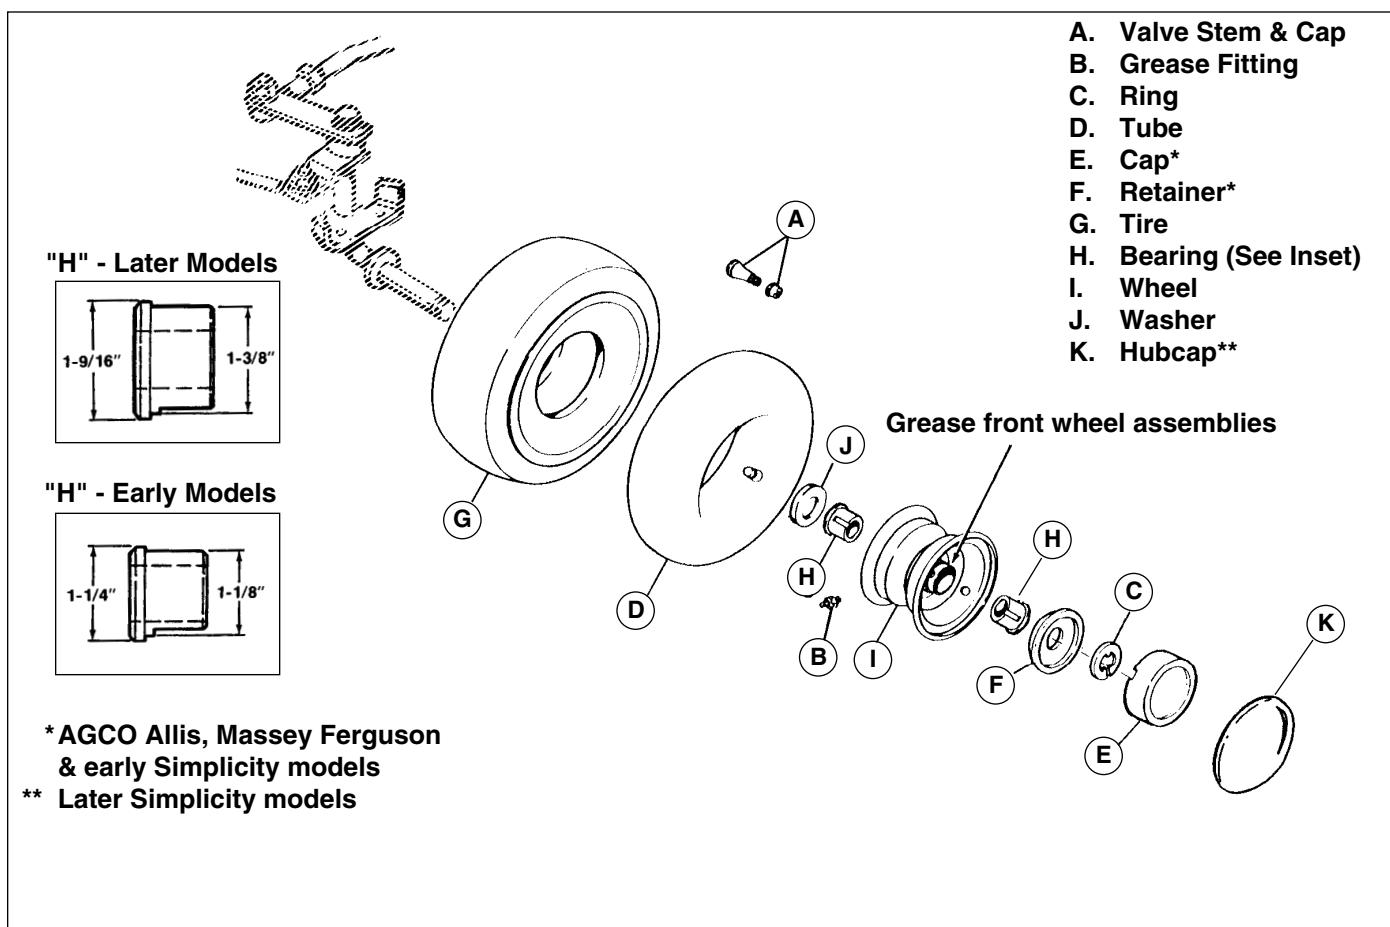

Figure A-2. Front Wheel Assembly
5. Removal of the wheel provides an opportunity to inspect the inside of the tire for sidewall damage, as well as to check inflation pressure. Also, visually check wheel bushings for wear or damage before reinstalling the wheel on the unit, and replace as required. Wheel bushings are pressed into the wheel hub with a press fit and may be removed by pressing or driving out. Align the flat on the bushing with the grease fitting before pressing in the bushing. When installing new bushings, measure the I.D. of the wheel hub to determine the correct bearing O.D. size. See inset illustration in Figure A-2 for sizes.